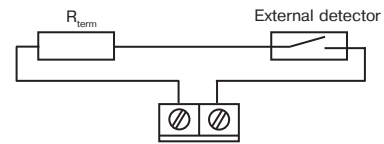

Figure 7
8.4 If necessary, connect an external detector (for example, hermetic contact) to the connecting blocks as it shown in Figure 7. Hook up the terminal (EOL) resistor  $R_{term}$  (5.1 kΩ resistor) to the end of the loop. The length of the loops must not exceed 5 m. The connections must be soldered or screwed.